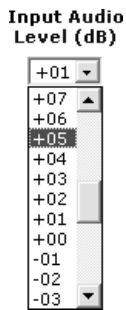

Figure 97. Gain Drop Box
4. Click the **Input Audio Level1 (dB)** drop box. A drop down scroll box appears (see figure 97).